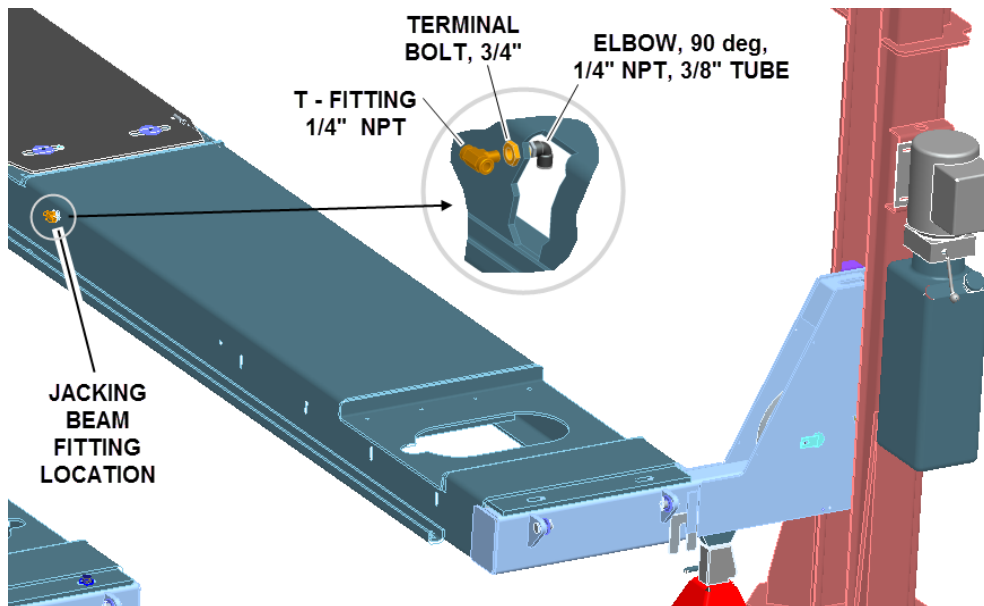

Figure 31
- Retrieve 90° elbow 1/4" NPT to 3/8" push-lock from the hardware kit. Retrieve the 3/4" terminal bolt, and the 1/4" brass T-fitting from the hardware kit. Assemble on the left side deck as shown below. The 2 output ports of the T-fitting should be approximately parallel after installation with the jacking beam rail (**Fig.31**).